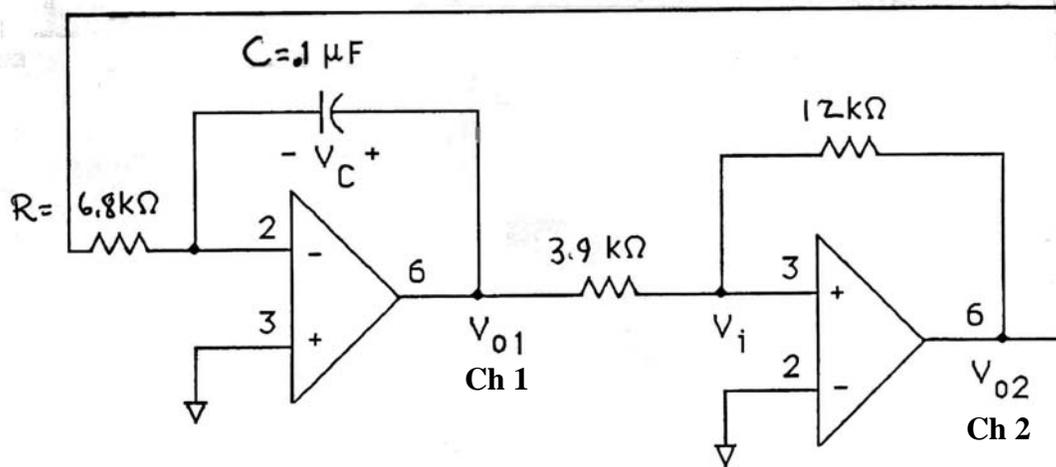

Figure 9.12: Triangle wave generator circuit 9.7.2.
9.7.2 Triangle-Wave Generator - Circuit 9.7.2. This circuit is slightly more complicated, as it requires two op amps. Use the already assembled circuit having a two 741 op amps and having power supplied to it by connecting pins 4 of both devices together and then connecting pins 7 of both devices. The assembled circuit is shown in Figure 9.12. Observe and record V_{o1} and V_{o2} using both channels of the oscilloscope.